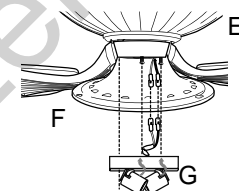

Fig. 6
Carefully arrange wiring within light kit fitter (G). Align slotted holes in light kit fitter (G) with loosened screws in shade fitter (F). Twist light kit fitter (G) to lock. Re-insert screw that was removed and tighten all screws securely. [Fig. 6]